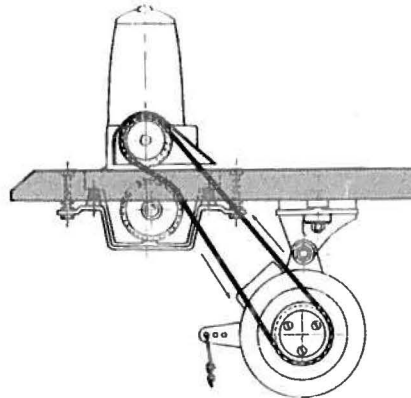

fig. 1
1. Mount and line up driving belt square to machine and motor pulleys as shown in fig. 1.